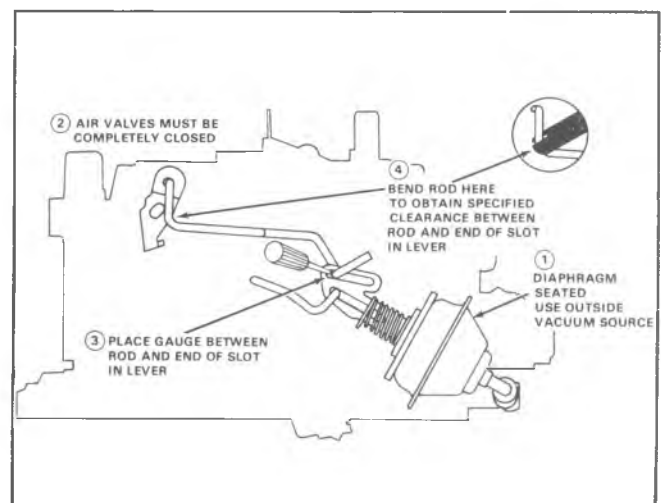

Fig. 12Q—Air Valve Dashpot Adjustment
AIR VALVE DASHPOT ADJUSTMENT (FIG. 12Q)
3. Bend air valve dashpot rod as shown in figure 12Q if required to adjust.